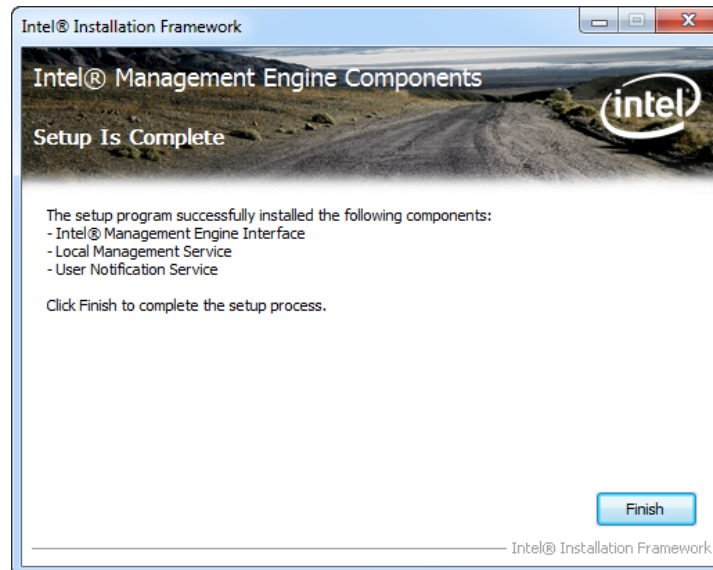

Figure 8-26: Intel® ME Driver Installation Finish Screen
Step 13: The **Finish** screen in **Figure 8-26** appears.